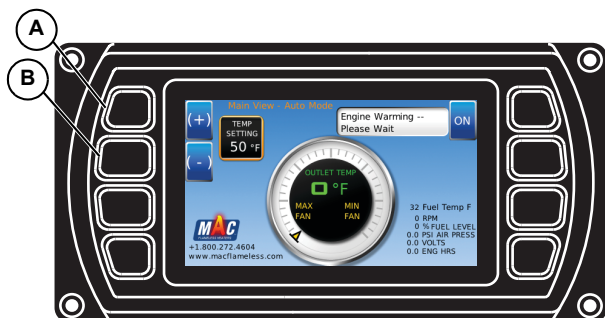

Figure 3-6. AUTO mode.
- To increase output temperature, press (+) (*Figure 3-6*, item A)
- To decrease output temperature, press (-) (*Figure 3-6*, item B)